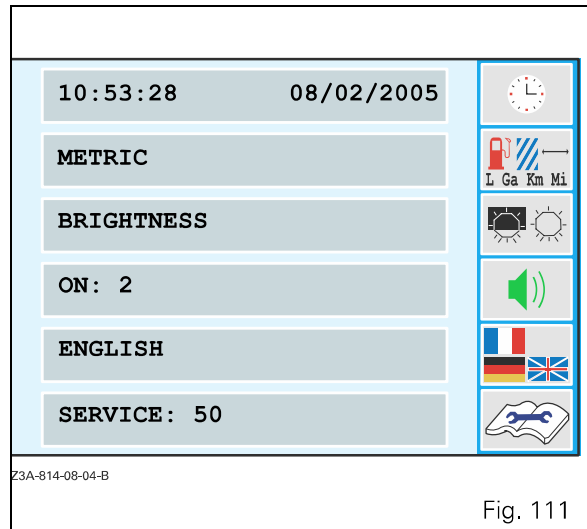

Fig. 111
- Rotate the encoder (1) to the **SETTINGS** application and press the encoder once the active function is highlighted by red text and a red rectangle around the icon, or press the key <<₂ (2). The main menu (Fig. 111) is displayed.
- To exit an application, press the **ESC** key (3).
7.4.1 - Setting parameters (Fig. 111)